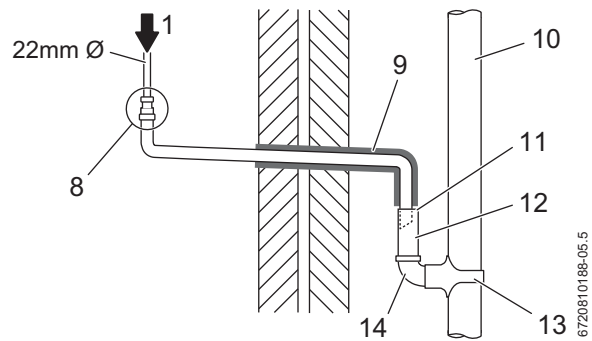

Fig. 12 Disposal into a rainwater down pipe
**Continued - Key to condensate illustrations, figures 12, 13, 14 & 15**
- Refer to figure 12 when a rain water down pipe is used to dispose of condensate.